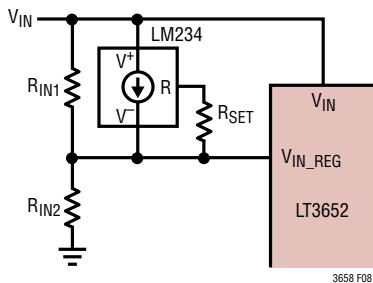

Figure 8. MPPT Temperature Compensation Network
In the circuit shown in figure 8,
As the temperature coefficient for V_{MP} is similar to that of V_{OC} , the specified temperature coefficient for V_{OC} (TC) of $-78mV/^\circ C$ and the specified peak power voltage ($V_{MP}(25^\circ C)$) of 17.6V can be inserted into the equations to calculate the appropriate resistor values for the temperature compensation network in Figure 8. With R_{SET} equal to 1000Ω , then: